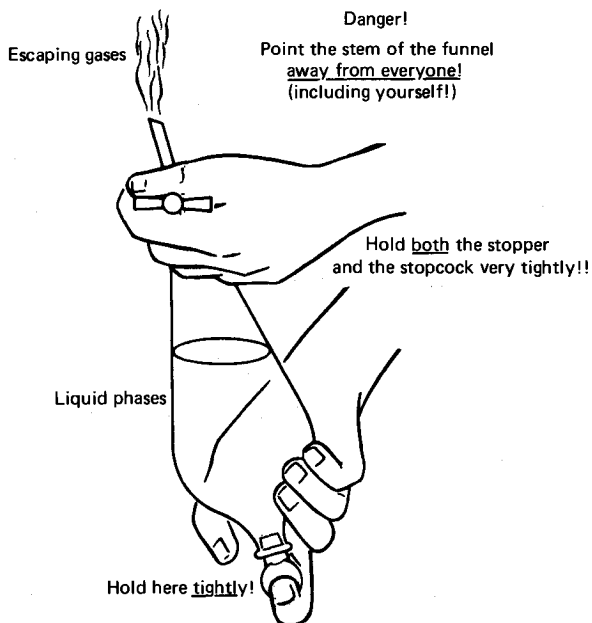

Fig. 56 Holding a sep funnel so as not to get stuff all over.
7. Invert the sep funnel (Fig. 56).